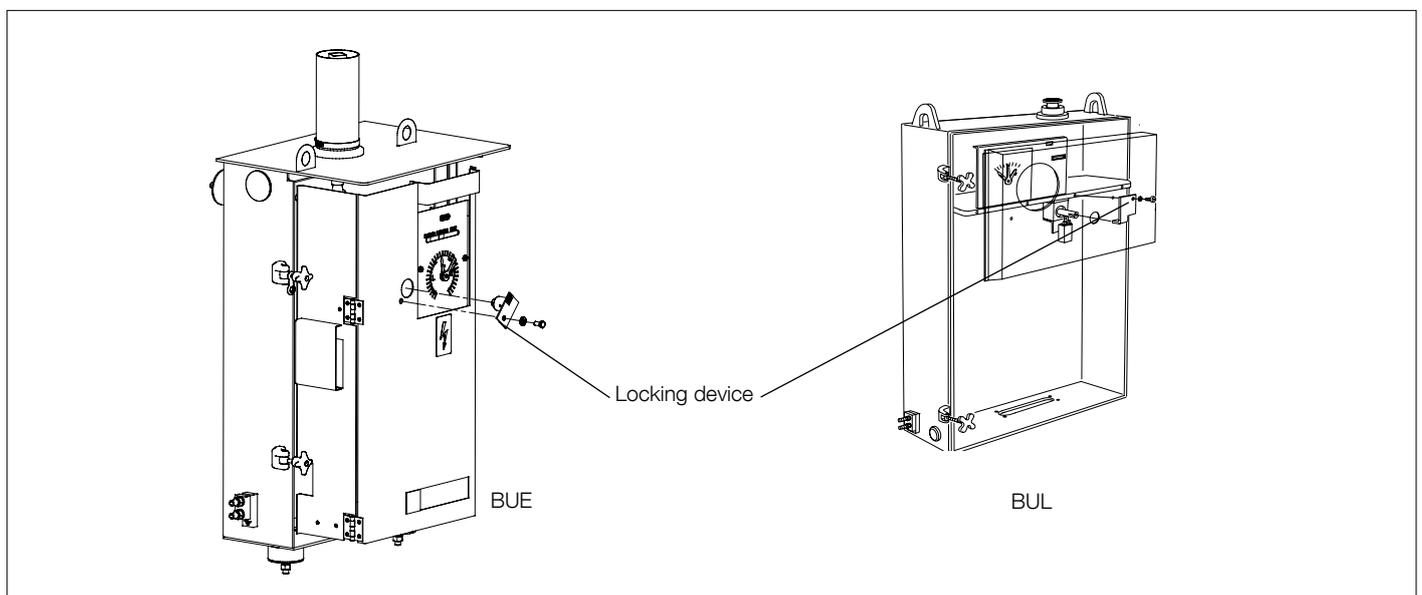

Fig. 44. Locking device for motor-drive mechanism.
2. Remove the locking device for the motor-drive mechanism; see Fig. 44.
Check the position of the motor-drive mechanism according to Fig. 24 (BUE) or Fig. 25 (BUL). Use the hand crank to adjust it to its exact position. Install the locking device on the motor-drive mechanism; see Fig. 44.